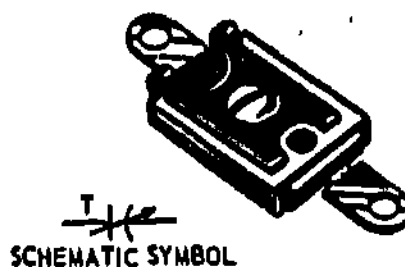

Figure 2-26. Compression Capacitor
b. The second type of variable capacitor is the compression capacitor. This type is shown in figure 2-26. The compression capacitor consists of plates separated with a mica dielectric. The capacitance is varied